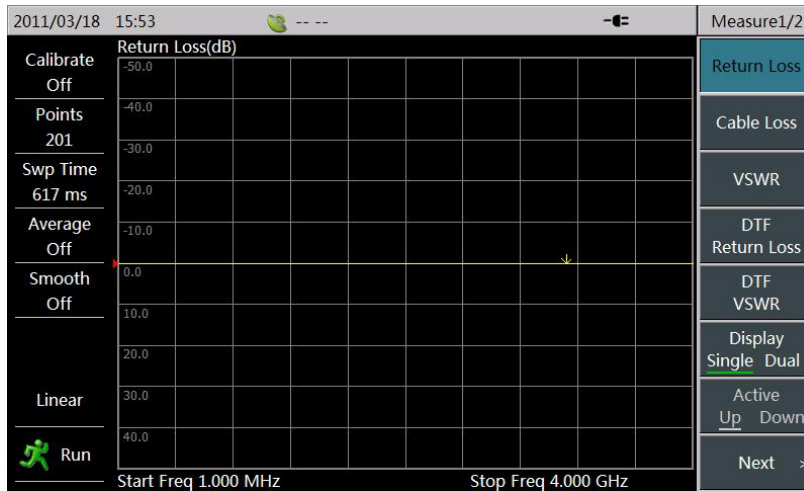

Figure 1-2 Measuring format Select
- 2) Select [Return Loss] menu to set the current measuring format of instrument as “Return Loss”, as shown in Figure 1-2.